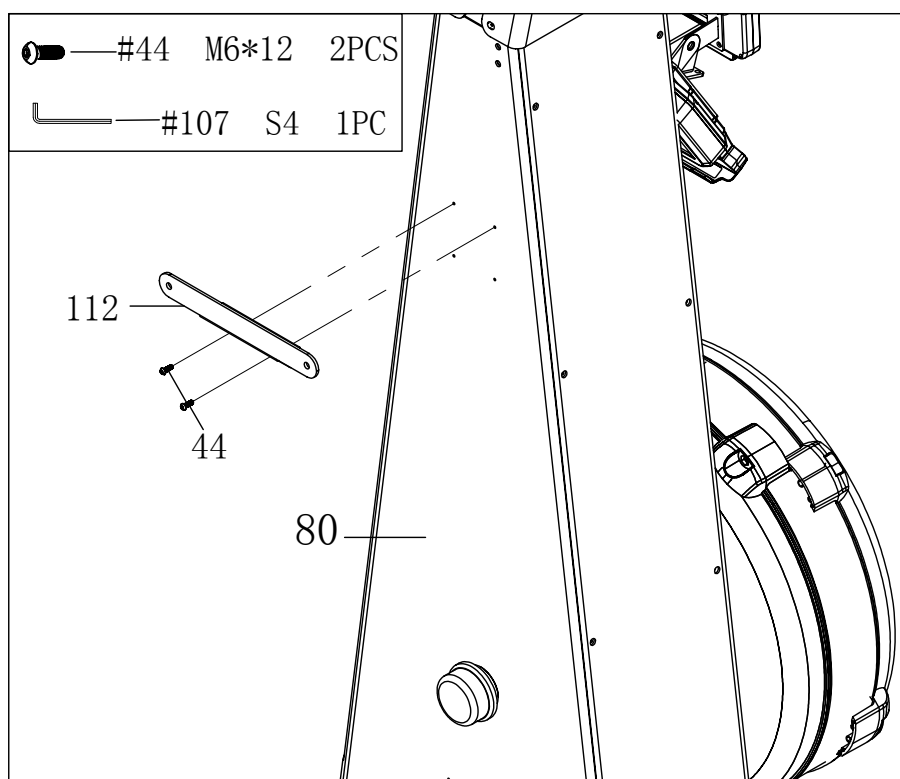

Fig. 17
2. Fix the fixed bracket (112) to the back connecting plate (80) with two bolts (44) (Fig. 17).